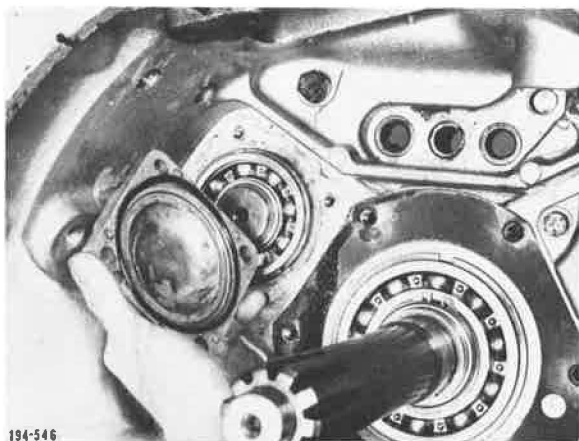

Figure 89. Removing Cover
4. Remove front compound countershaft front bearing covers. See Figure 89.